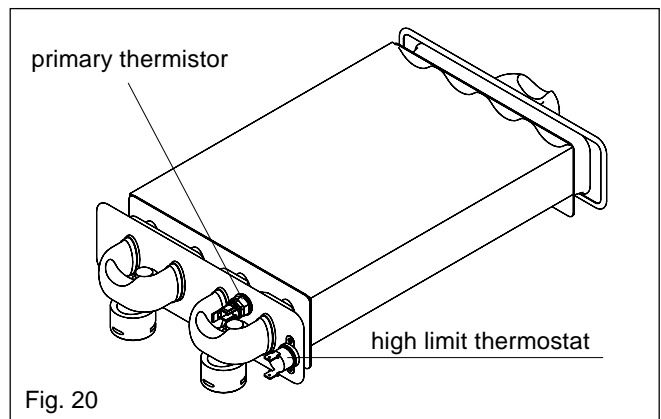

Fig. 20
6.13 HIGH LIMIT THERMOSTAT fig. 20